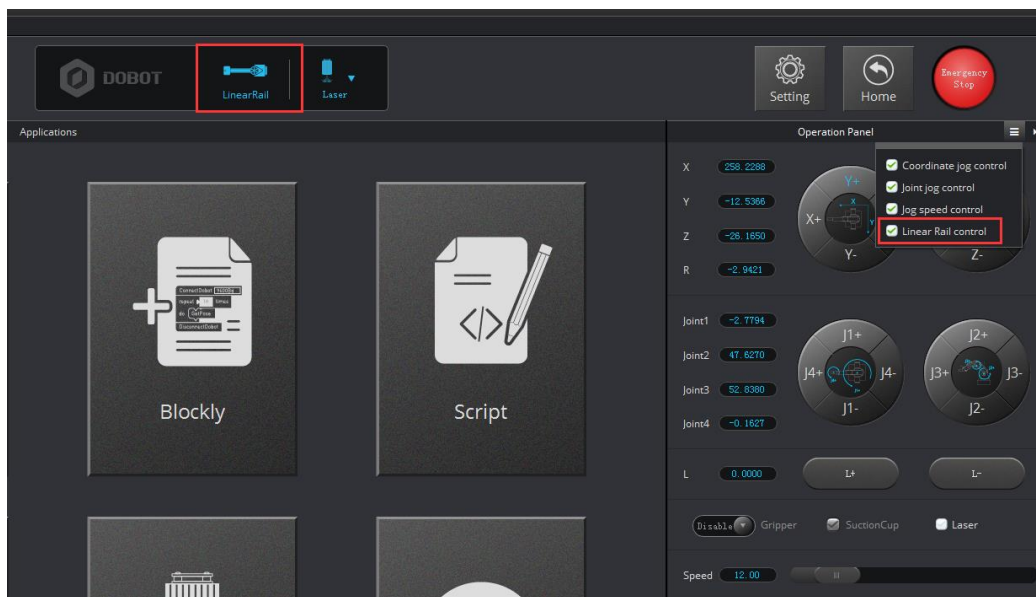

Figure 1.11 Click LinearRail
Step 1 Open DobotStudio, click **LinearRail** and choose **Linear Rail control** on the DobotStudio page. As shown in Figure 1.11.